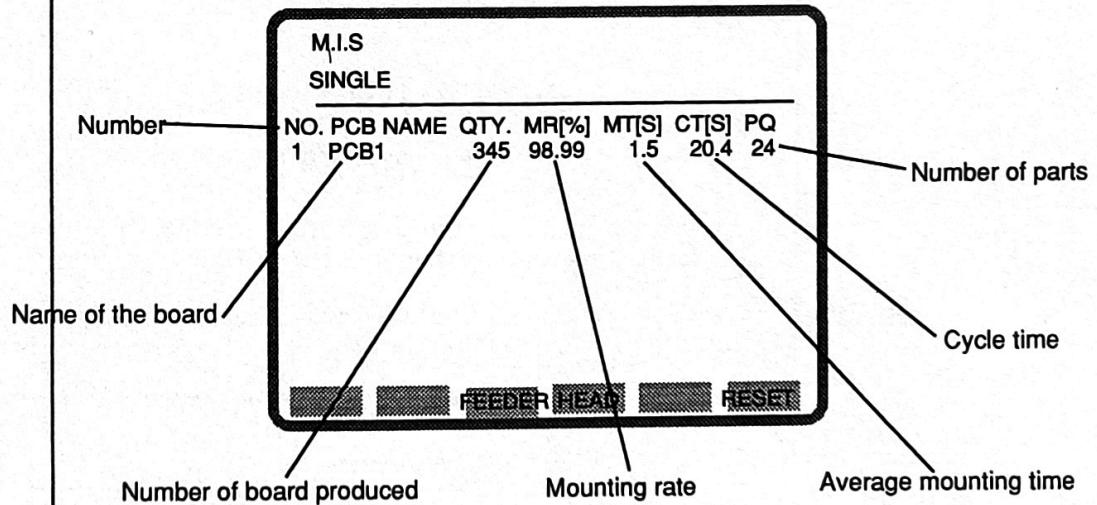

fig.8 Single Data by PCB
- 1) On the screen shown in either Fig. 8, press the F3 (FEEDER) key. Feeder data, classified by part number, will be displayed for the PCB.
- 3) On the screen shown in Fig. 9, press the EXIT key. Pressing the EXIT key on the single feeder data screen returns to the screen shown in Fig. 8, where single data is displayed for PCB.
- 2) On the screen shown in Fig. 8 , press the EXIT key.
- 1) Press the F6 (RESET) key on the screen shown in either Fig. 8 (a reset has not actually been initiated at this point).
- 1) On the screen shown in either Fig. 8, press the F4 (HEAD) key.
Pressing the EXIT key on the single head data screen returns to the screen shown in Fig. 8, where single data is displayed for PCB.